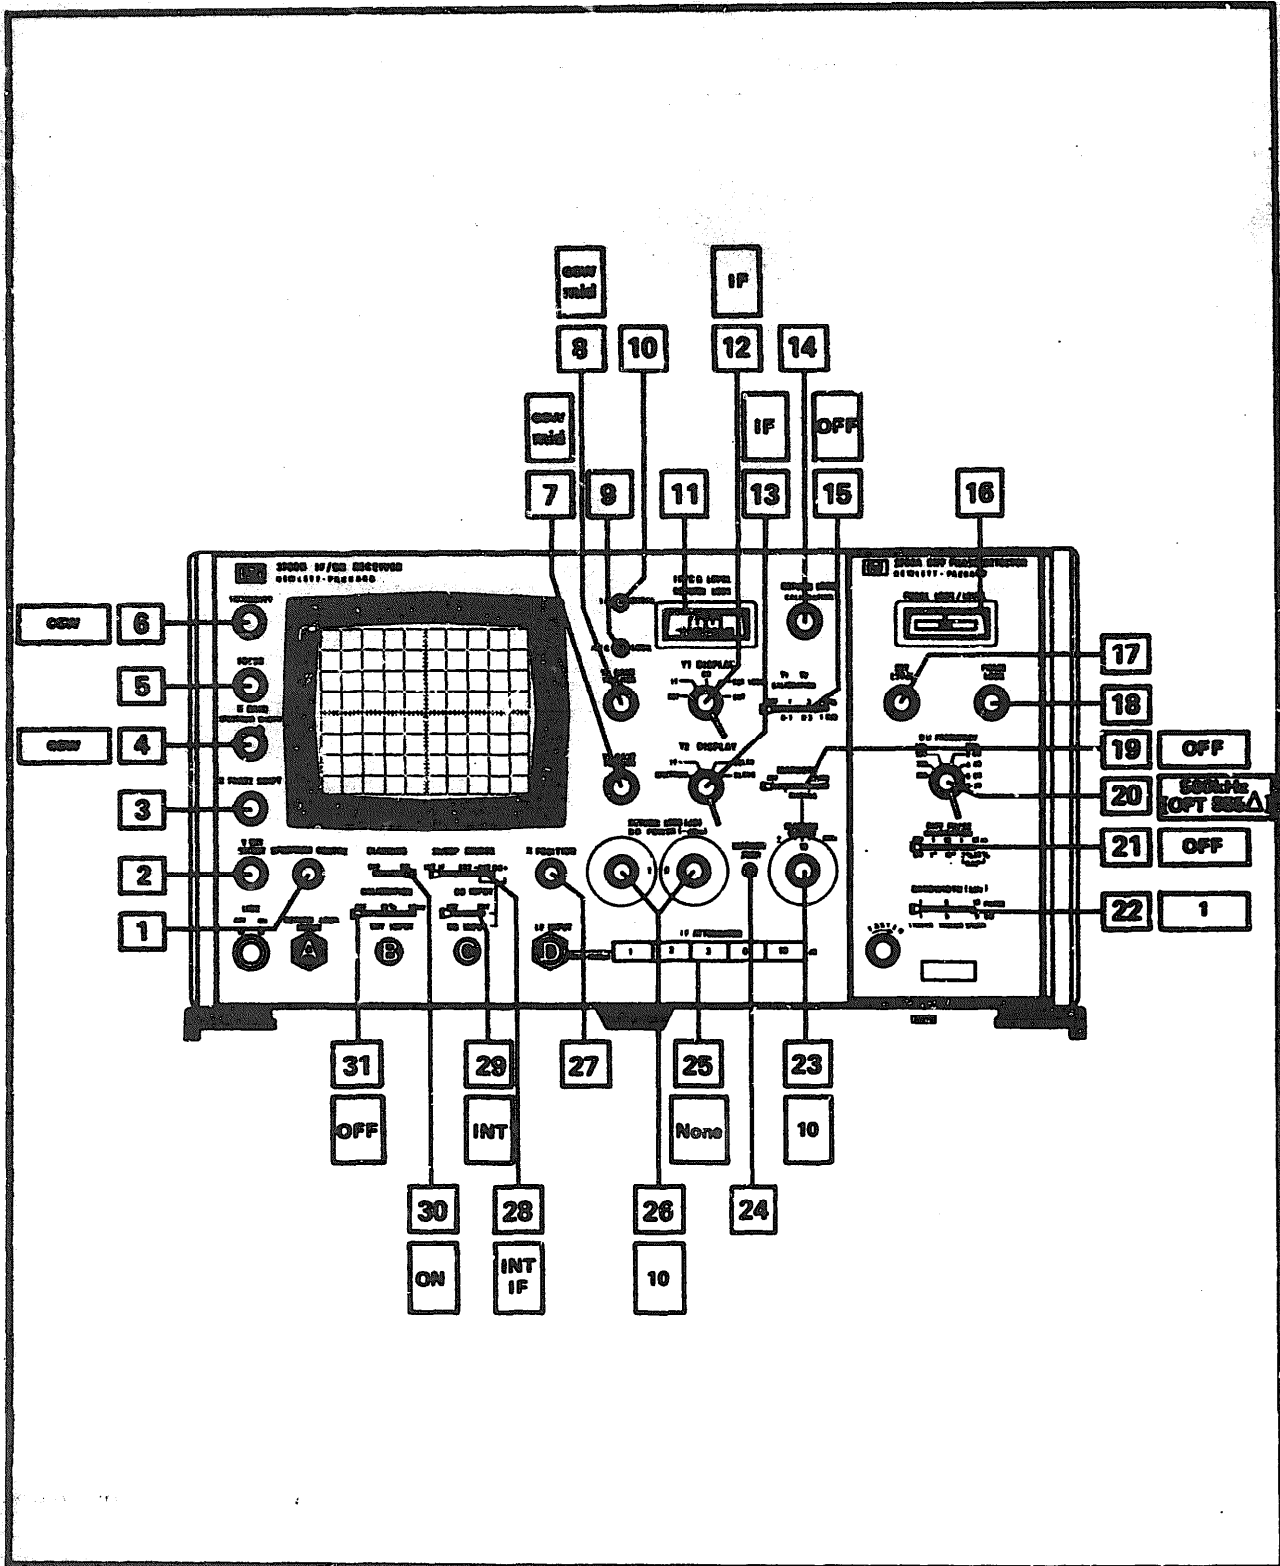

Figure 4-10 IF/BB Receiver Reference Setting
1. Set the controls to their reference settings as in Figure 4-10.
2. Turn the INTENSITY control (6) clockwise until two spots just appear on the screen.
3. Adjust the FOCUS control (5) and if necessary the ASTIGMATISM control (rear panel) to give a sharp round spot.
4. Set the Y2 DISPLAY switch (13) to SPECTRUM and adjust the INTENSITY control (6) to display two traces of normal brilliance.
5. Adjust the X-GAIN control (4) and the X-POSITION control (27) for a 10cm horizontal display symmetrical about the centre graticule line.
7. Reset the Y2 DISPLAY switch (13) to IF.
1. Set the controls to their reference settings as in Figure 4-10 and insert 10dB in the IF ATTENUATOR (25).
1. Set the controls to their reference settings as in Figure 4-10